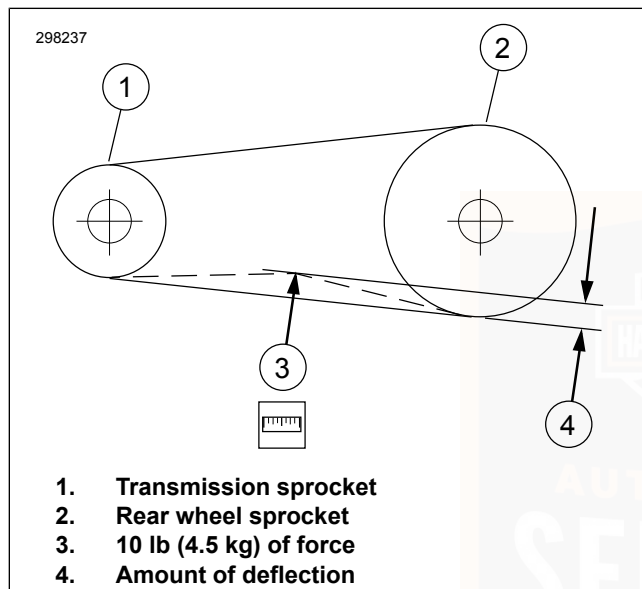

Figure 33. Checking Belt Deflection
- b. **All other models:** See Figure 33. Measure amount of deflection (4) while holding gauge steady.